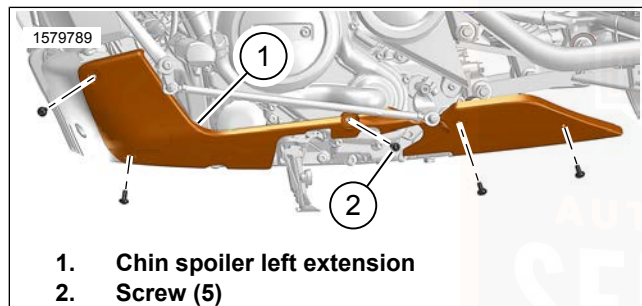
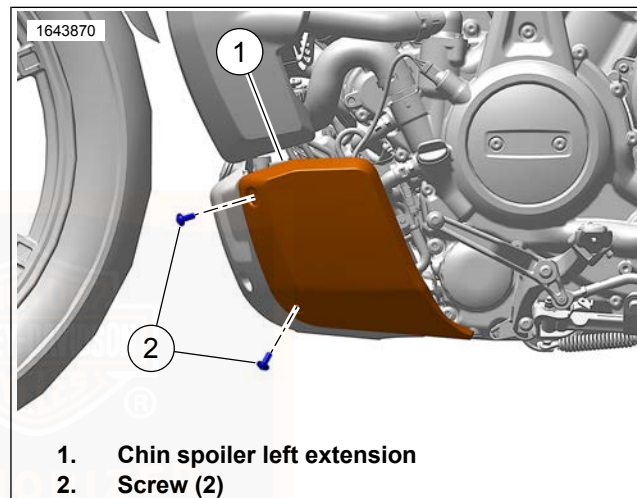

Figure 85. Chin Spoiler Left Extension (Long)
Figure 86. Chin Spoiler Left Extension (Short)
1. See Figure 85 and Figure 86. Remove screws (2).
2. Remove chin spoiler left extension (1).
1. See Figure 85 and Figure 86. Install chin spoiler left extension (1).
2. Install screws (2). Tighten.